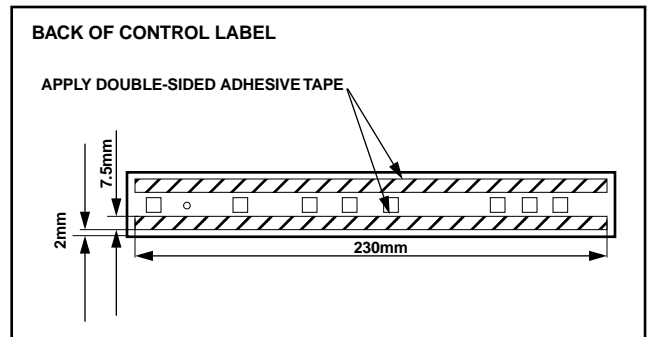

Figure 1
1. Adhere double-sided adhesive tape in two locations on the back of the control panel label as shown in Figure 1.
- Reattach the control label as shown in Figure 1.